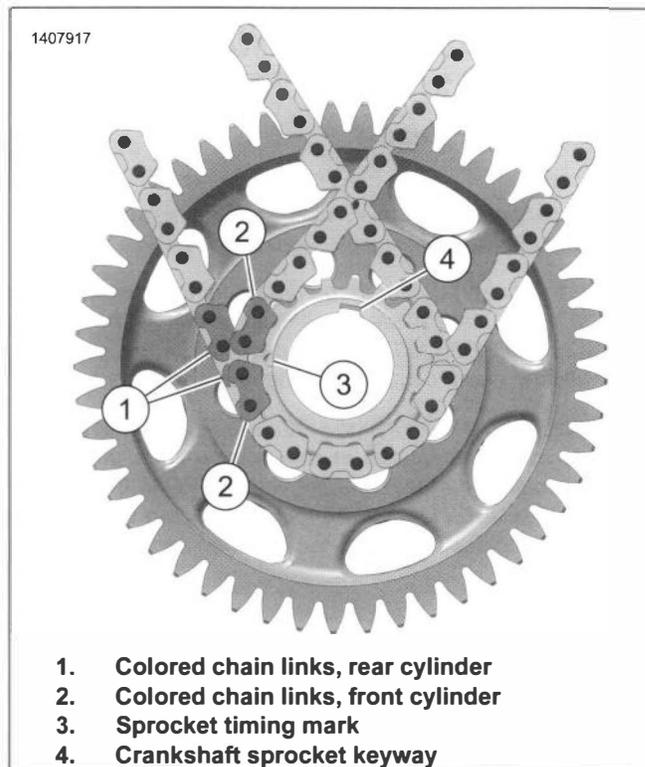
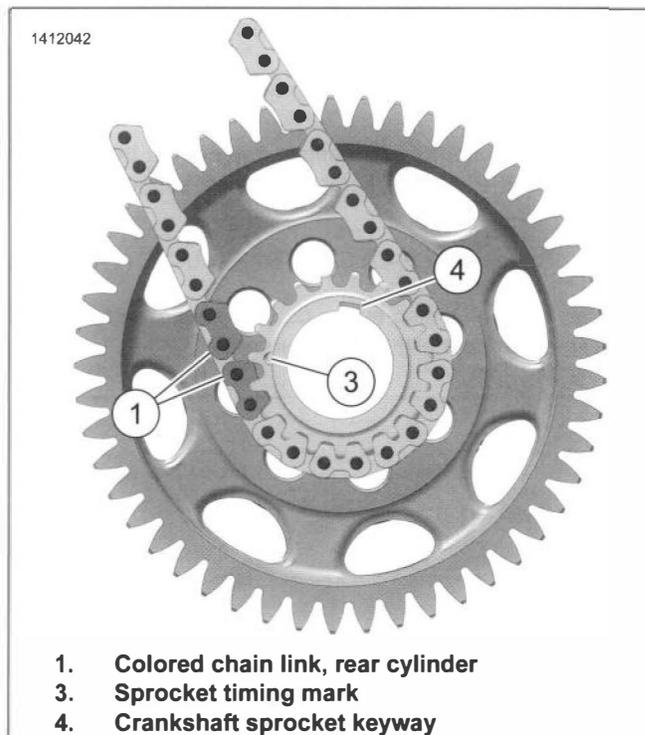

Figure 4-22. Alignment Marks, Crankshaft
Figure 4-23. Alignment Marks, Rear Cylinder
1. See Figure 4-22 and Figure 4-23. Align the two colored chain links (1 or 2) with sprocket timing mark (3).
a. Sprocket timing mark (3) should point between the two colored chain links.